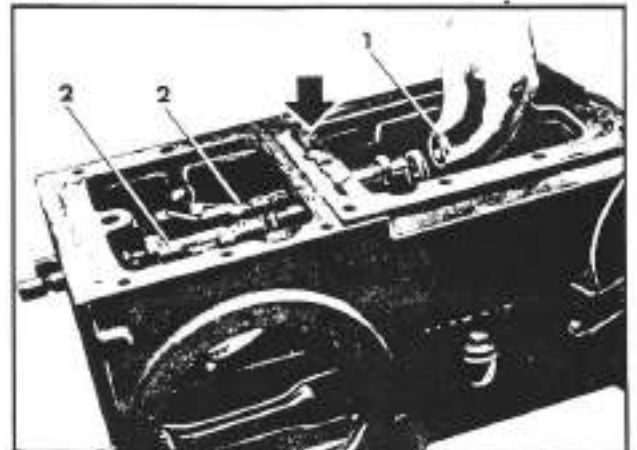
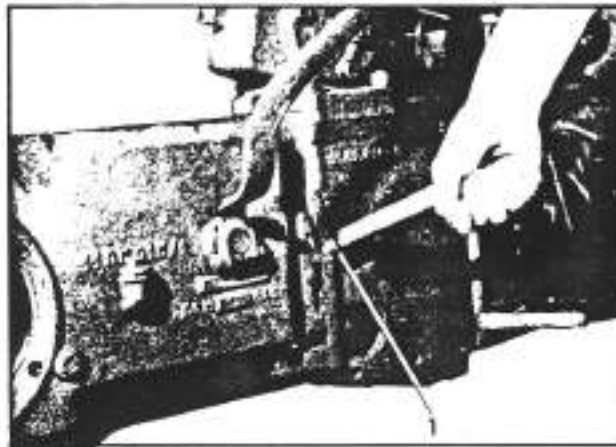
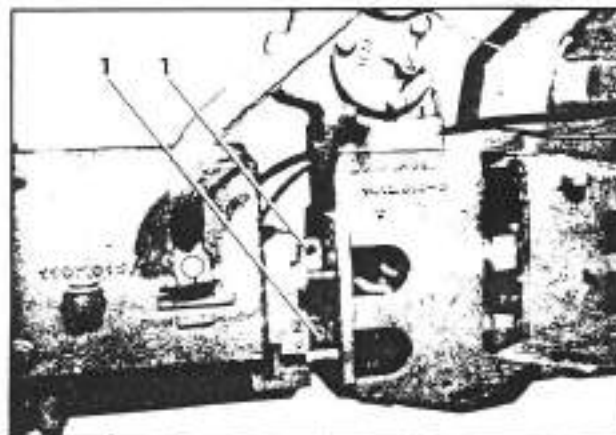

Fig. 3-28. Removal of the selector rod forks
Fig. 3-26. Loosening of the lock nuts of the articulated joint
Fig. 3-27. Removal of the bolts from the articulated joint
- d. Only loosen the bolts holding the gear box to the articulated joint (1; fig. 3-26); carefully separate the gear box and the articulated joint and then remove the socket-head bolts (1; fig. 3-27). Then take out the bolts (1; fig. 3-28) and detach the complete
- e. Take off the nuts (1; fig. 3-28) from the speed selector rods and remove the respective forks (2; fig. 3-28).
Pay particular attention that the springs and poppet balls located in the holes indicated in figure 3-26, immediately over the respective rods are not lost.